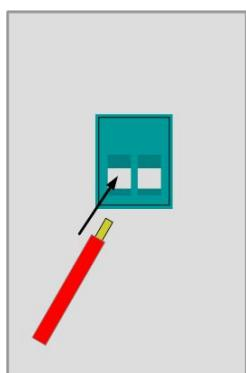

Figure7. Power Supply-1
- ① As shown in Figure 7, remove the skin of wire about 7mm and put it into the terminal and tighten it by turning the left screw using screwdriver.